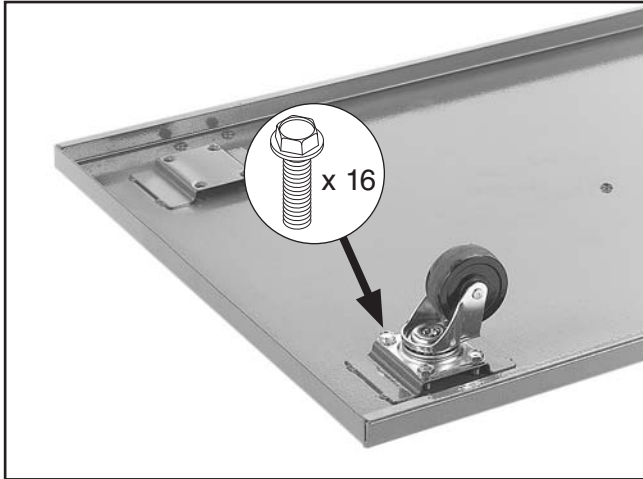

Figure 9. Caster installed onto the base.
2. Attach the casters to the base with (16) $\frac{5}{16}$ "-18 x $\frac{1}{2}$ " flange bolts, as shown in **Figure 9**.